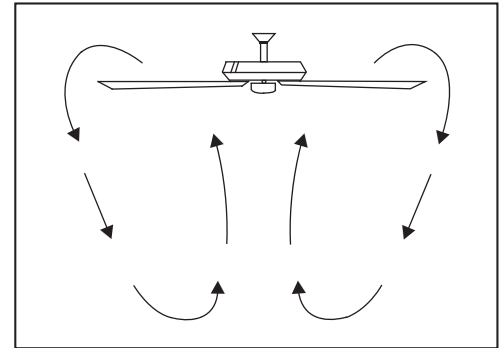

Figure 24
**Cool weather** - (Clockwise Direction) An upward air flow moves warm air off the ceiling as shown in Figure 24. This allows you to set your heating unit on a lower setting without affecting your comfort.